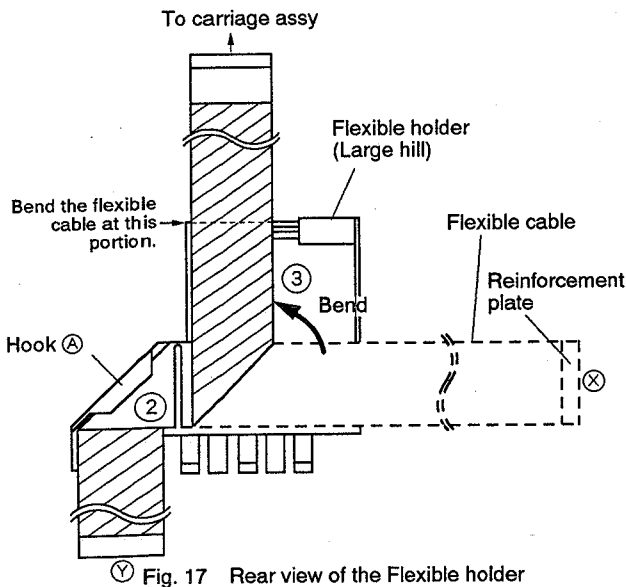

Fig. 17 Rear view of the Flexible holder
2. Put the bended portion in step 1 to hook (A) of the Flexible holder (Large hill) in the rear of Mechanism assy. (Fig. 17)